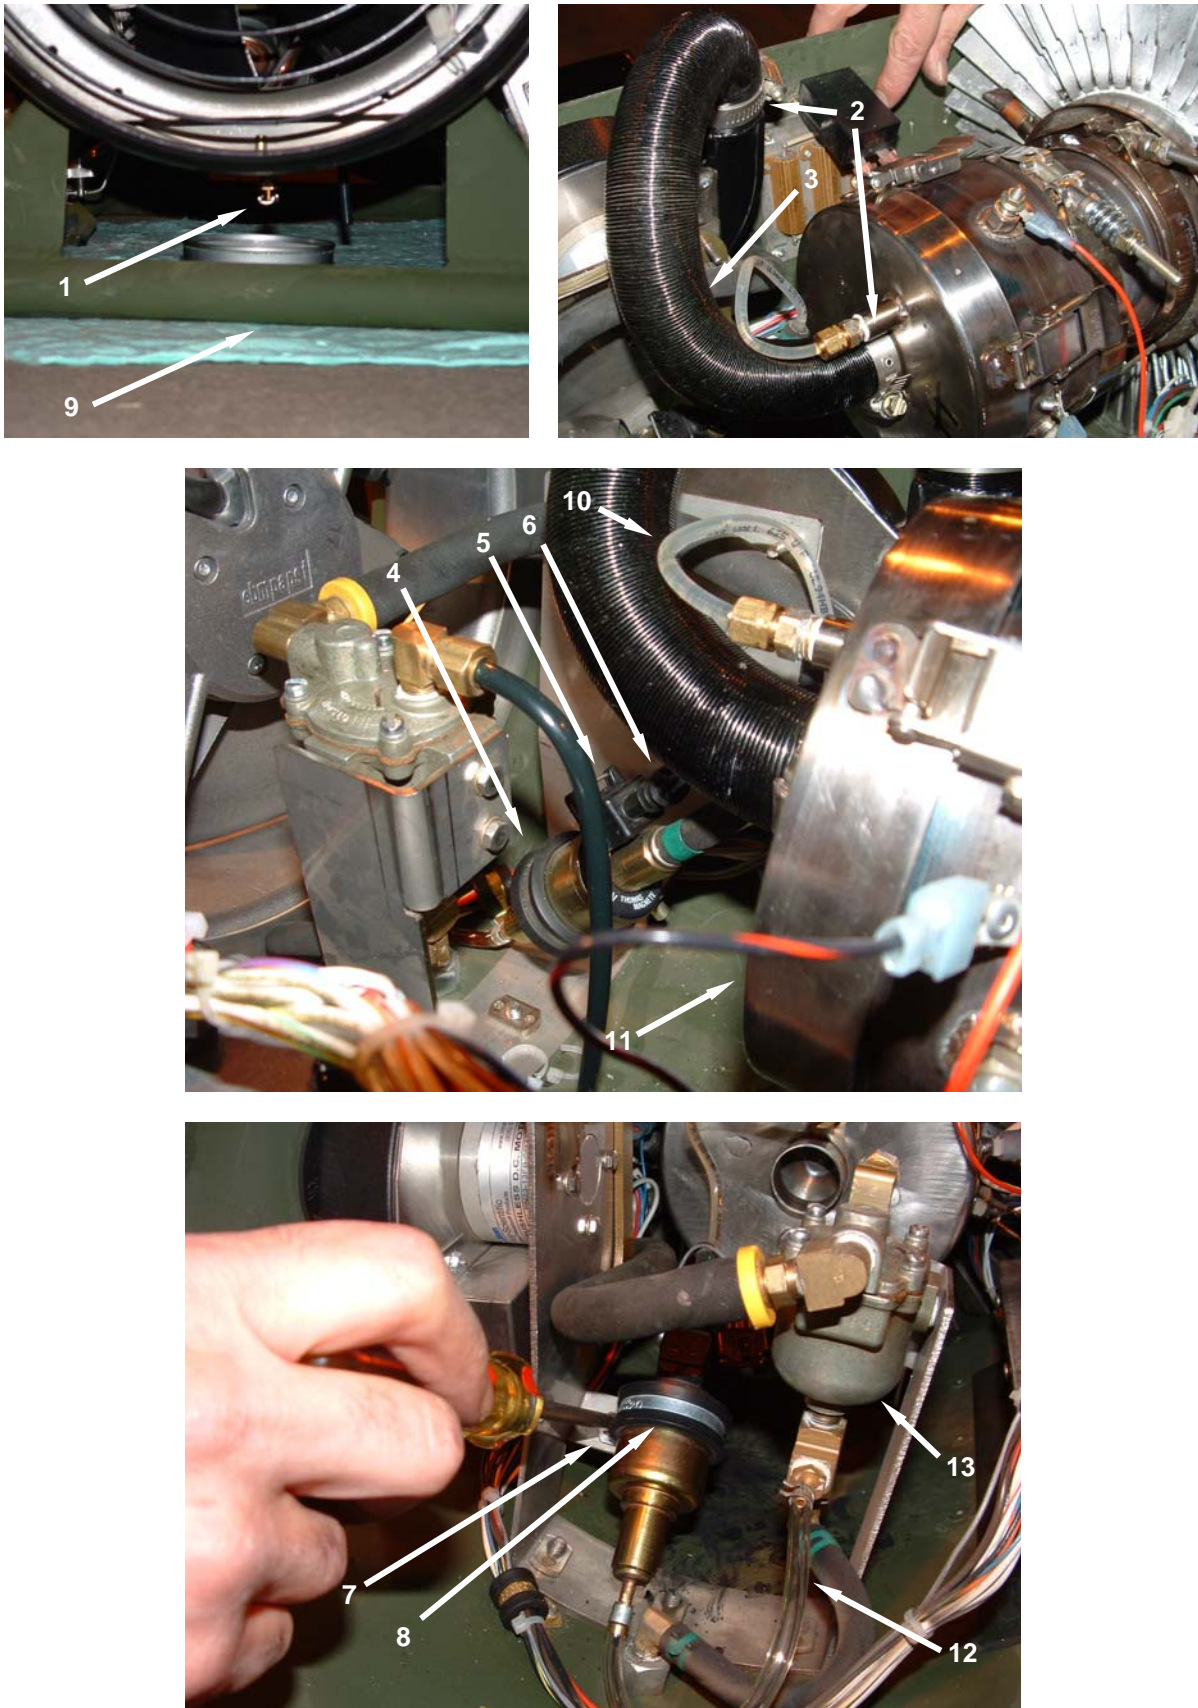

Figure 2. Replace the Fuel Pump and Fuel Pump Hoses - Disassembly.
1. Place a petroleum absorbent mat under the heater. Open the drain valve (**Figure 2, Item 1**) and allow fuel to drain into a clean container. Close drain.
2. Loosen the hose clamps (**Figure 2, Item 2**) retaining the combustion air blower hose (**Figure 2, Item 3**), and remove the combustion air blower hose.
3. Place a petroleum absorbent mat under the fuel pump (**Figure 2, Item 4**).
4. Push, do not pull, on the wire clamp (**Figure 2, Item 5**) to release the electrical connector (**Figure 2, Item 6**), and disconnect the electrical connector for the fuel pump (**Figure 2, Item 4**).
5. Remove the screw (**Figure 2, Item 7**) that secures the fuel pump bracket (**Figure 2, Item 8**) to the lower housing assembly (**Figure 2, Item 9**).
6. Loosen the compression fitting retaining the fuel pump outlet hose (**Figure 2, Item 10**) to the burner (**Figure 2, Item 11**), and remove the hose from the burner.
7. Use pliers to release the hose clamp, and remove the fuel pump inlet hose (**Figure 2, Item 12**) from the float assembly (**Figure 2, Item 13**).